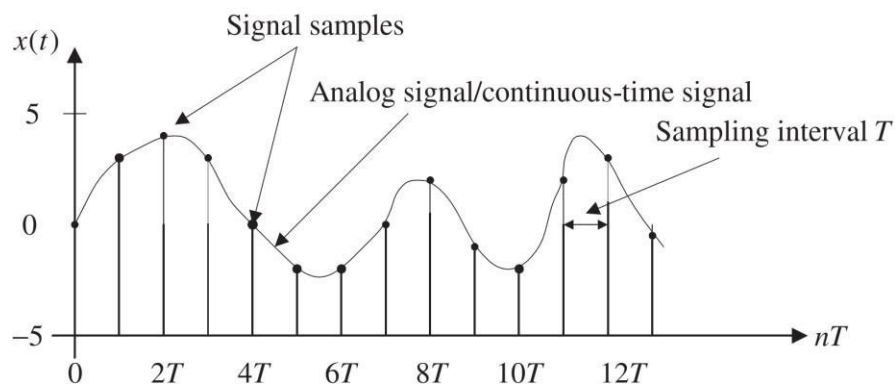

Figure 2.2 : Analog Signals and Discrete Time samples
Here we first develop concepts of sampling processing in the time domain. Figure 2.2 shows an analog (continuous-time) signal (solid line) defined at every point over the time axis (horizontal line) and amplitude axis (vertical line). Hence, the analog signal contains an infinite number of points. It is impossible to digitize an infinite number of points. The infinite points cannot be processed by the digital signal (DS) processor or computer, since they require an infinite amount of memory and infinite amount of processing power for computations. Sampling can solve such a problem by taking samples at a fixed time interval as shown in Figure